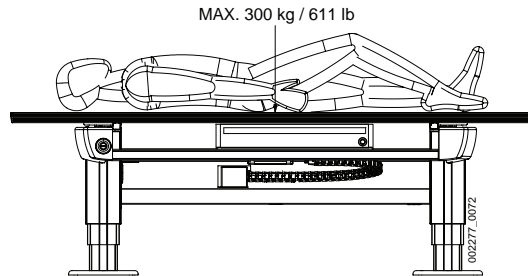

Fig. 2-12 Table top centered
- 300 kg, see Fig. 2-12 Table top centered